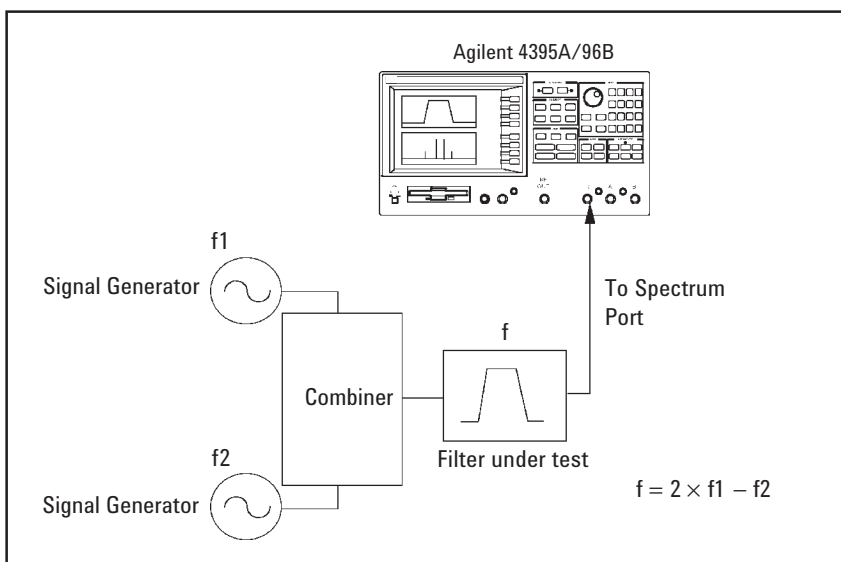

Figure 16. Measurement Configuration of the SAW Filter Intermodulation Distortion
Intermediate Frequency (IF) SAW filter evaluations require not only the general network filter parameter evaluation, but also intermodulation distortion evaluation. This measurement is performed by applying two input signals to a filter. A third order signal can then be seen within the filter bandwidth. For example, when the center frequency of the filter is f_0 , and the two input signals are $f_1 = f_0 + 100 \text{ kHz}$, $f_2 = f_0 + 200 \text{ kHz}$, the third order signal $((2 \times f_1 - f_2) = f_0)$ inputs to the filter. The size of this third order signal can be evaluated after going through the filter using the spectrum analyzer. The measurement configuration for the SAW filter intermodulation distortion is shown in Figure 16.